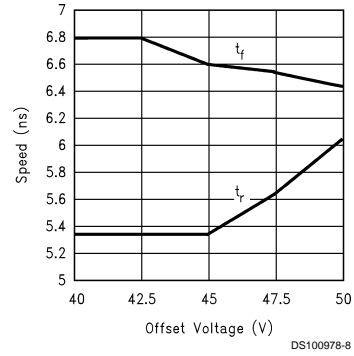

FIGURE 7. Speed vs Offset
*Figure 7* shows the variation in rise and fall times when the output offset of the device is varied from 40 VDC to 50 VDC. The rise time shows a maximum variation relative to the center data point (45 VDC) of about 13%. The fall time shows a maximum variation of about 3% relative to the center data point.